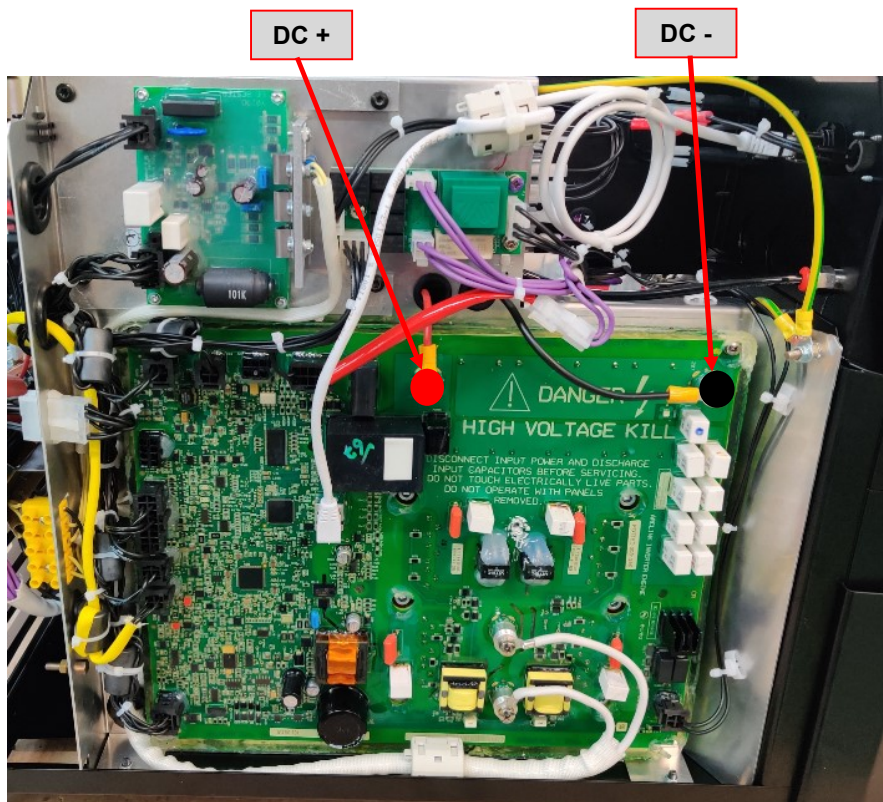

Figure 1
4. Locate the two terminals **DC+** and **DC -** on the Switch Board on the right side of the machine (See **Figure 1**).